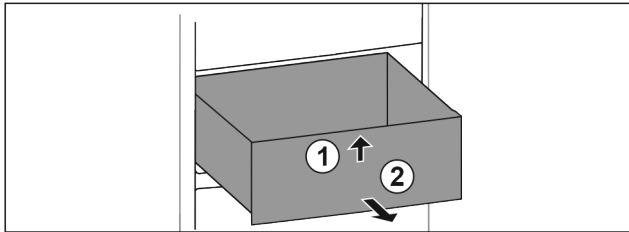

Fig. 188
- Lift up drawer at the front. *Fig. 188 (1)*
- Remove drawer to the front. *Fig. 188 (2)*